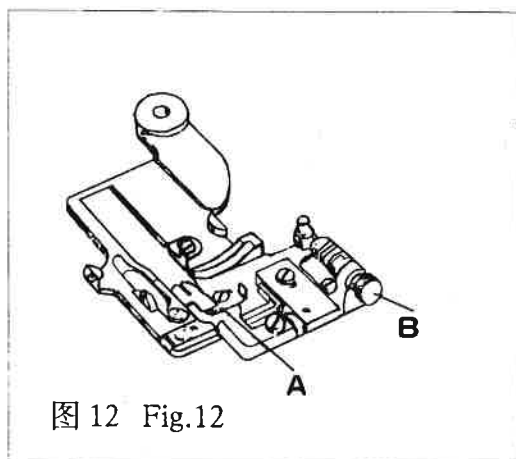
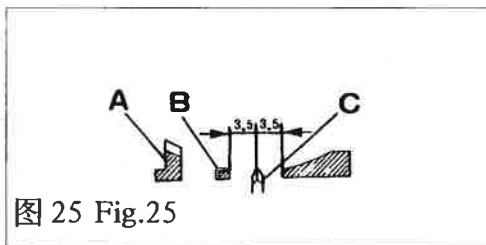
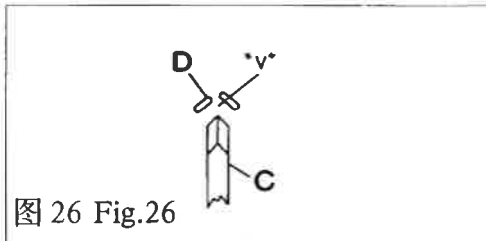

图 12 Fig.12
图 25 Fig.25
图 26 Fig.26
3. Regulation of the pressure of material retainer (Fig.12)
(1) 左右位置 抬料轮“C”的中心位置应与针板“A”上的压料板槽中心位置重合(图25);压料板“D”的V形槽中心位置与抬料轮“C”中心位置重合(图26)。
①首先旋松紧定螺钉“C”，转动顶尖螺钉“B”，使抬料轮调节杆“A”无轴向窜动，但又能灵活摆动，然后将紧定螺钉“C”旋紧。
②旋松卡圈“D”的锁紧螺钉“E”及曲柄“F”的锁紧螺钉“G”后将抬料轴左右移动，使抬料轮处于标准位置(图 25)时将锁紧螺钉“E”及“G”旋紧，并应保持抬料轴无轴向窜动，但能灵活摆动，且与左右压脚板互不相碰。
③旋松压料板螺钉“A”，左右移动压料板“D”(图 12)使压料板V形槽中心与抬料轮中心重合(图 26)时，旋紧压料板螺钉。
(1) The left and right position.
The centre of the ridge forming disc “C” coincides with the centre of material retainer groove on needle plate “A”(Fig.25); the centre of “V” groove of material retainer “D” coincides with the centre of ridge forming disc “C”(Fig.26).
①Loosen set screw “C” and turn pointed screw “B” to secure that the ridge forming disc regulating lever “A” swings nimbly and is kept from having axial play, and tighten set screw “C”.
② After loosening lock screw “E” of collar “D” and lock screw “G” of crank “F”, move the ridge forming disc leftward or rightward to set the ridge forming disc in a position required (Fig.25), tighten lock screw “E” and “G”. Make sure that the ridge forming disc shaft shall be kept from having axial play and swing nimbly. The ridge forming disc shaft shall not come into contact with either the left presser foot or the right one.
③ Loosen material retainer screw “A”, move material retainer “D” (Fig.12) leftward and rightward to make the centre of “V” groove on material retainer coincides with the centre of the ridge forming disc (Fig.26). Tighten material retainer screw.